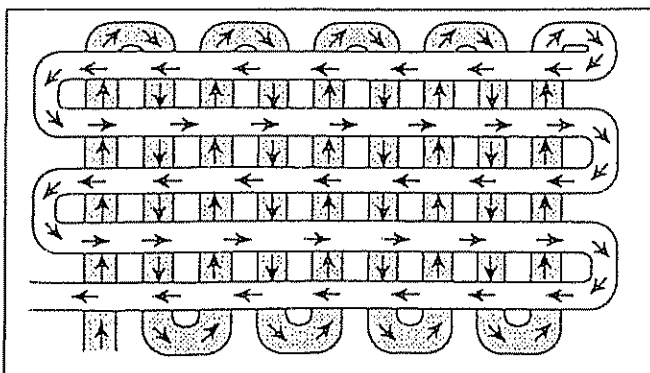

FIGURE 12
- You will find tilling much easier if you leave a row untilled between passes. Then go back over the entire area at right angles (Fig. 12). There are two reasons for doing this. First, wide turns are much easier to negotiate than about-faces. Second, the Tiller won't be pulling itself, and you, toward the row next to it.